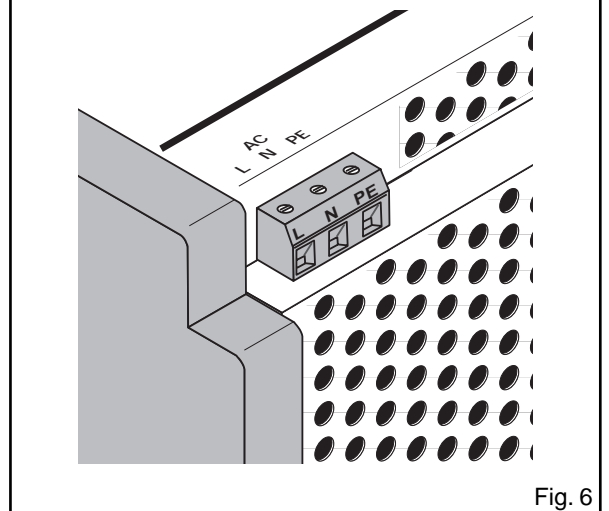
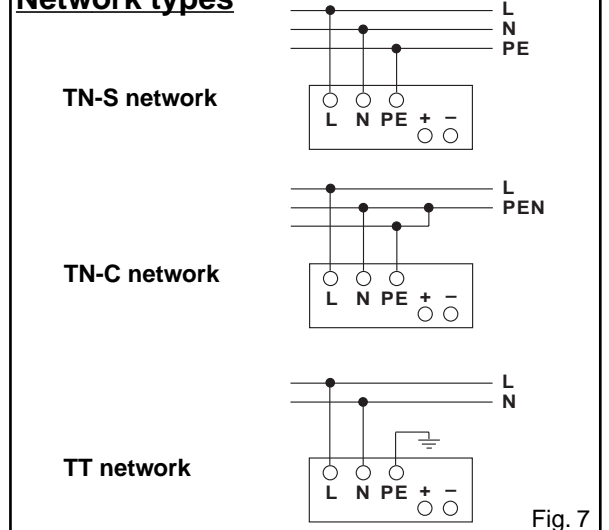

Fig. 6
Fig. 7
**Input (fig. 6):** The 120 V/230 V AC connection is made using the L, N and PE screw connections on the COMBICON plug connection (torque 0.5 Nm) (fig.6). The connection to the various network types is shown in fig. 7.